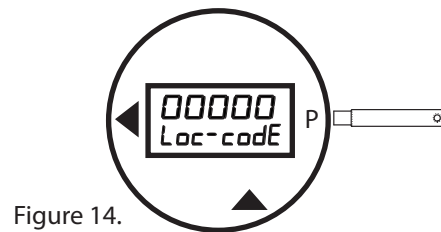

Figure 14.
- Hold the magnetic wand at the **P** on the right side of the register. After five seconds the register will display "Loc-codE" (Figure 14). The last digit will flash.